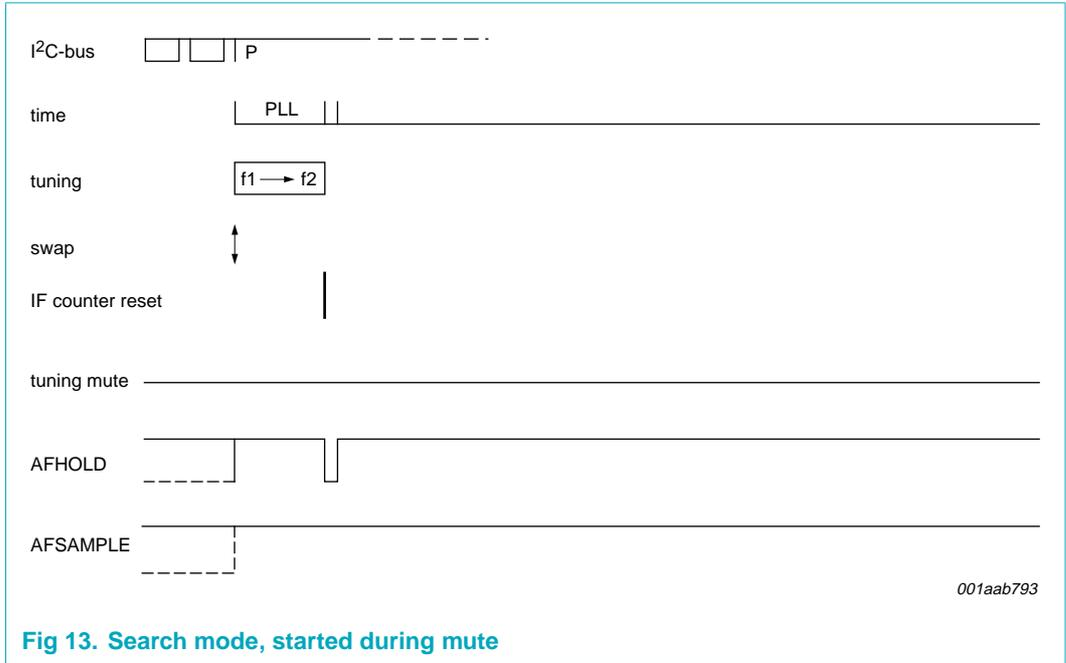
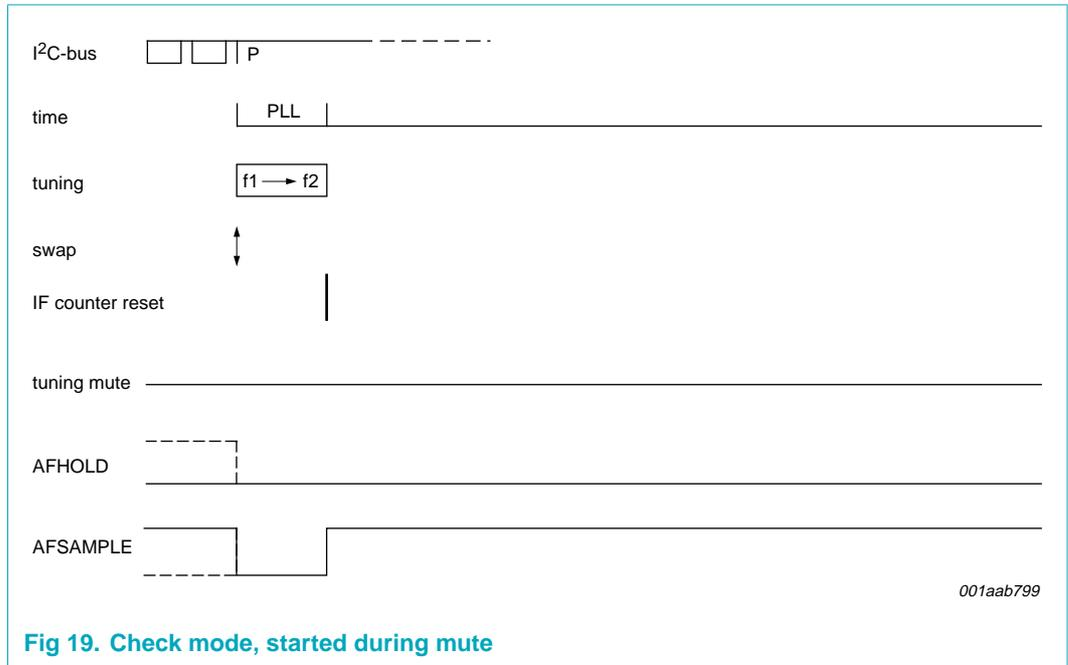

Fig 13. Search mode, started during mute
Fig 19. Check mode, started during mute
- [1] When the write transmission of a state machine command starts during a mute state of the state machine, the sequences of the state machine start immediately with the actions which follow the mute period in the standard sequence (see Figure 11, Figure 13, Figure 15, Figure 17 and Figure 19).